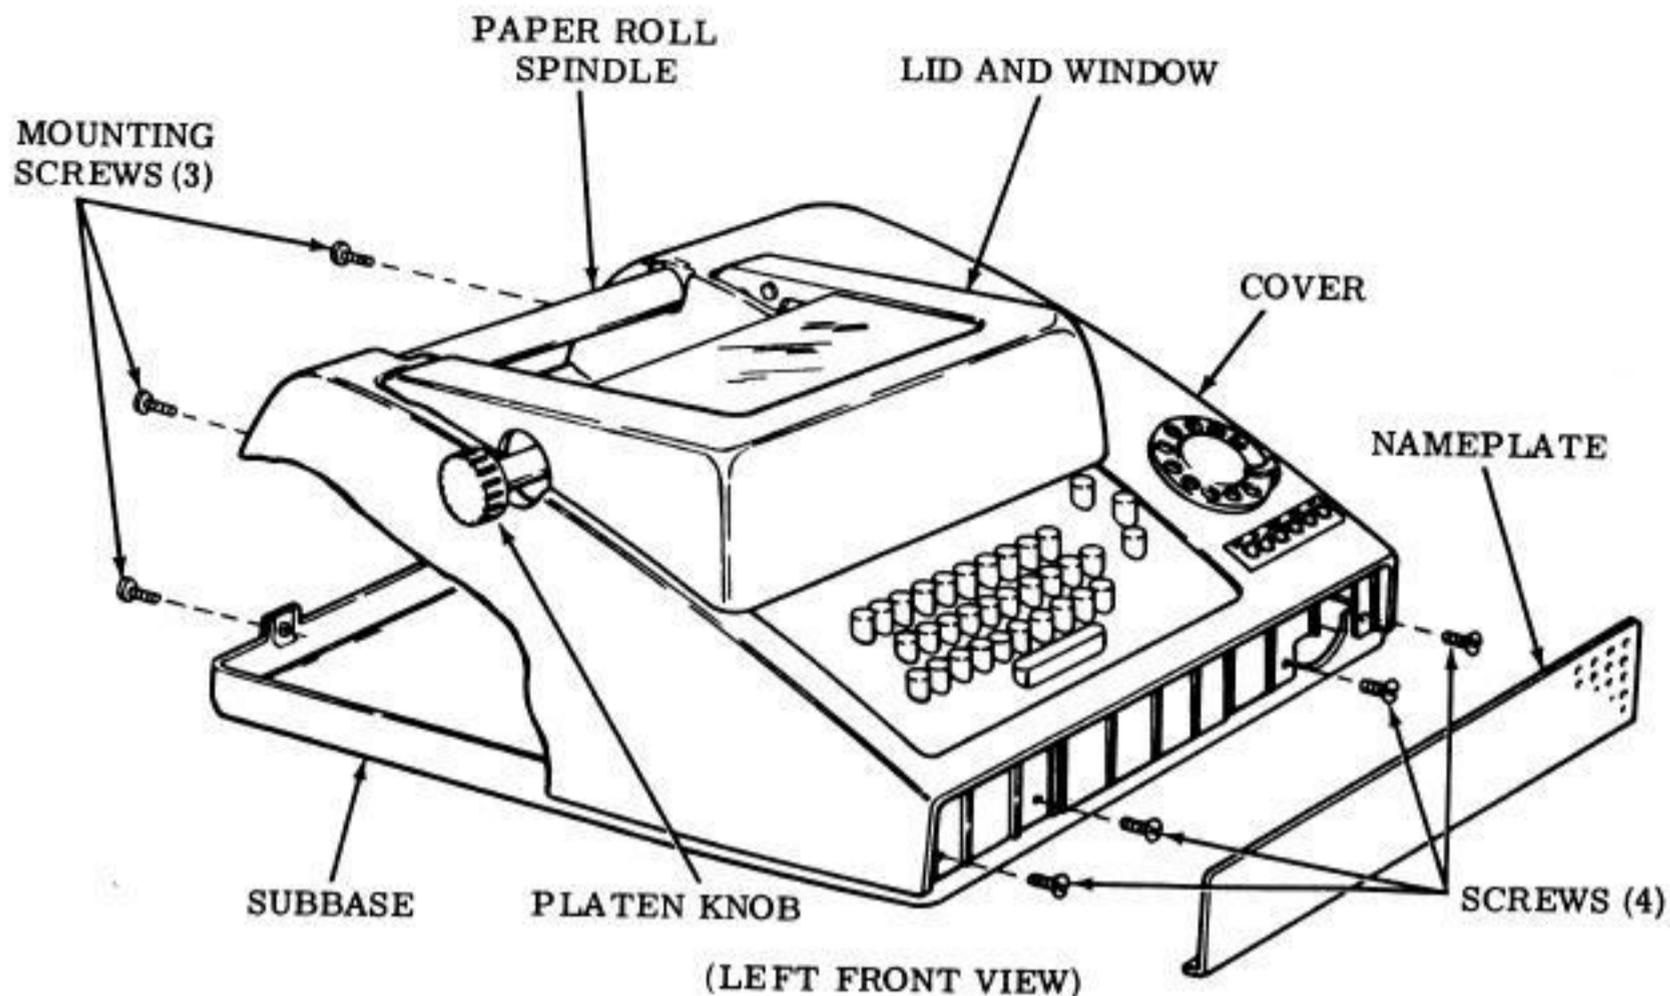

Figure 1 - Cover Mounting
- 1.07 Remove the bezel, if used, from the call control unit by removing two mounting screws. Remove the volume control knob, if used, or the power switch rotary knob, if used, by pulling frontward. Remove the nameplate by pulling it down and out (Figure 1). This will